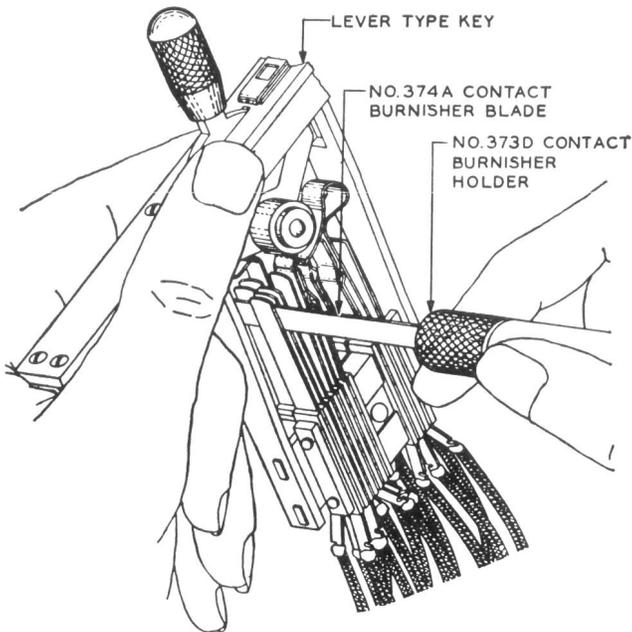

Fig. 1 – Method of Burnishing Contacts of Lever-type Keys
4.04 To clean contacts, burnish them using the No. 373D contact burnisher holder and the Nos. 374A, 374B, or 374C contact burnisher blades. Typical examples of methods of burnishing contacts are shown in Figs. 1 and 2.